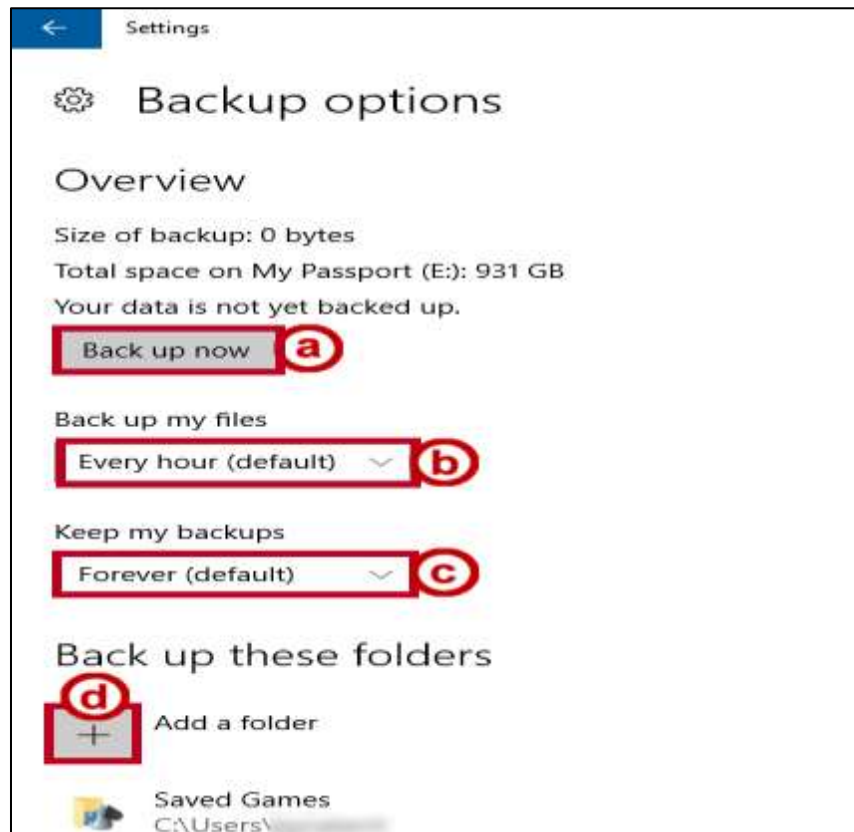

Figure 7 - Backup Options
- Click **Back up now** to begin an immediate backup of your folders (See Figure 7).
- Click the **drop-down** menu to select how often to back up your files (See Figure 7).
- Click the **drop-down** menu to select how long to retain backups (See Figure 7).
- Click the **Add (+)** button to add a folder to the list (See Figure 7).